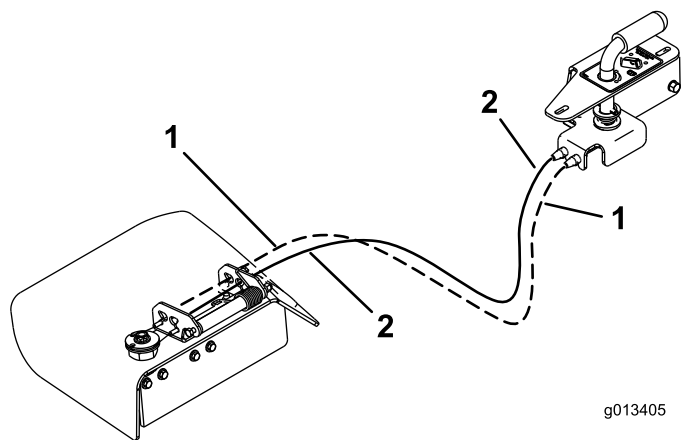

Figure 9
6. Locate the cable that is attached to the outside of the handle assembly and install this cable into the outside hole in the side discharge chute (Figure 9).